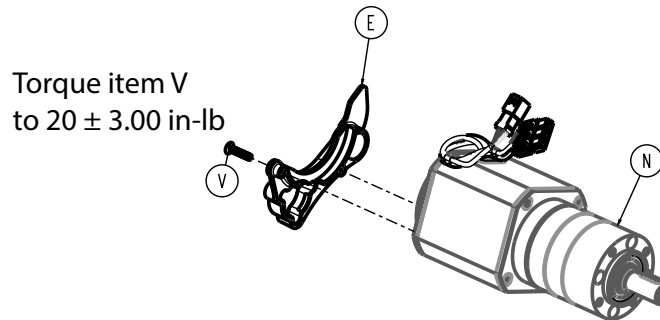

Figure 14 –
5. Using a T20 Torx driver, remove the flat countersunk head cap screw (V) that secures the back bulkhead (E) to the drive motor (N) (Figure 14). Discard the screw.
- Using a torque wrench, torque the flat countersunk head cap screws (V) to  $20 \pm 3.00$  in-lb when you reinstall.